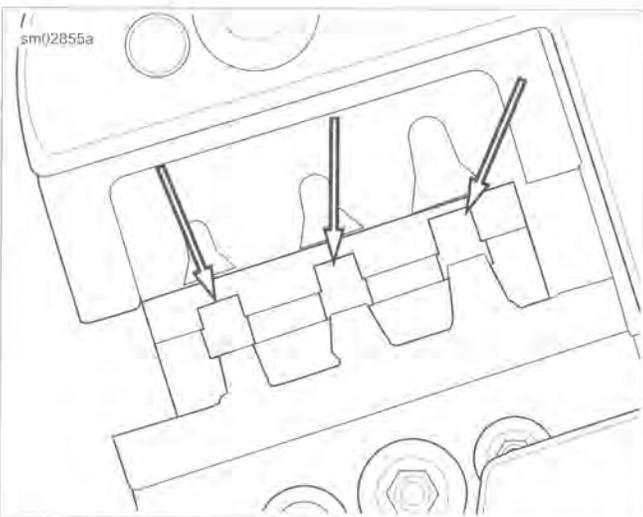

Figure A-54. Square Openings in Socket Locator Bar
- See Figure A-54. With the crimp tails up, place the terminal through the punch/die into the square opening in the socket locator bar.